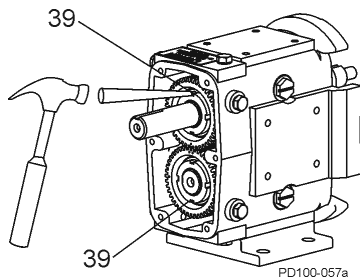

Figure 93 - Bend Lock Tab on Lockwashers
7. Bend the locking tab on the lockwashers into the locking nut slots, securing the gear locknut into place (Figure 93).